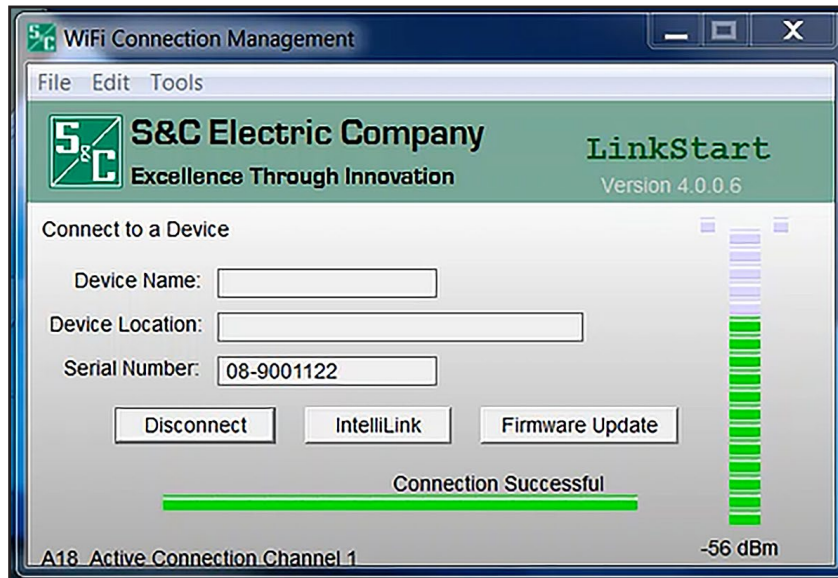

Figure 7. A successful connection to the IntelliRupter fault interrupter.
- STEP 4.** When a connection is established, the status bar indicates “Connection Successful” and displays a solid green bar. The vertical bar graph indicates signal strength of the Wi-Fi connection. See Figure 7.